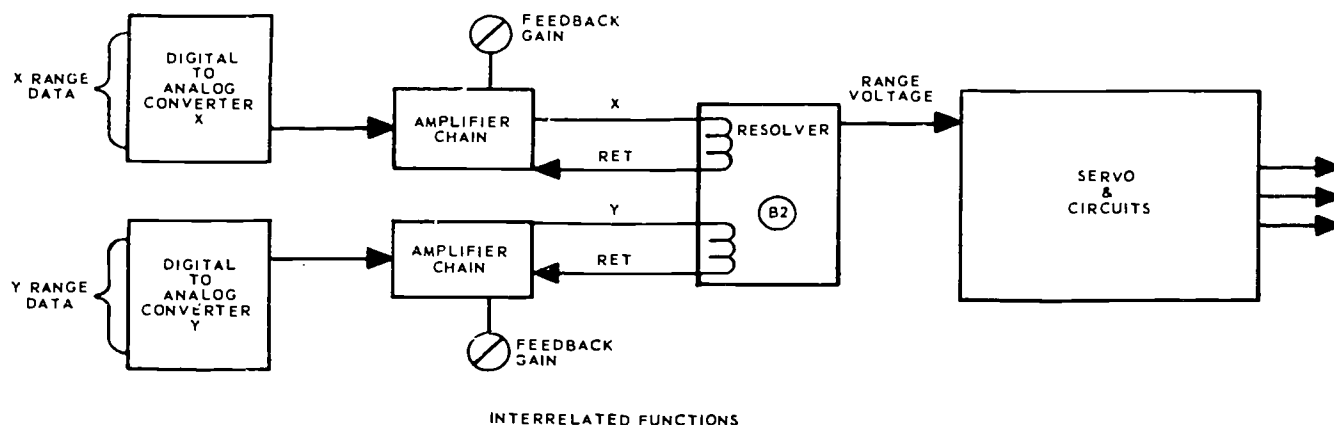

Figure 2-48. Interrelated functions and servo unit.
Taking the reverse method of identifying the interrelated functions, you will discover that the resolver feeds the range voltage to the servo unit (refer to fig. 2-48). The resolver has two inputs: an X coordinate range voltage and a Y coordinate range voltage. These voltages (AC) are developed from the amplifier chain and digital-to-analog converter circuits from X and Y digital range data.